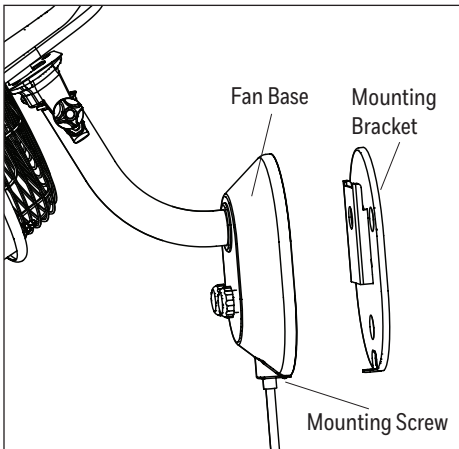

Figure 1.1
1. Remove the mounting screw from the underside of the fan base. Then remove the mounting bracket (Figure 1.1).